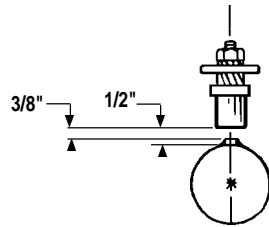

Figure 8
Step 10: Determining the location for the speed sensor/bracket assembly: The speed sensor coil must be pointing directly at the centerline of the shaft leaving a 3/8" (10 mm) clearance between the speed sensor coil and the magnets. See Figures 8.